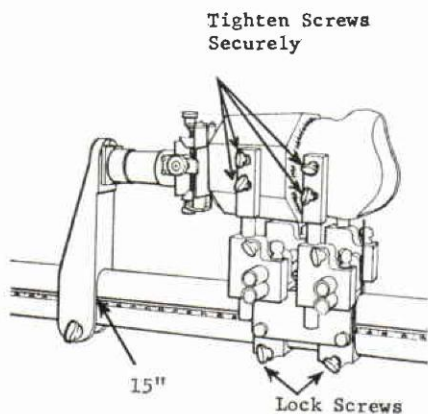

FIGURE 7
4. Slide socket clamps into position and lock on base tubes. Then secure socket with post clamps. See Figure 7.